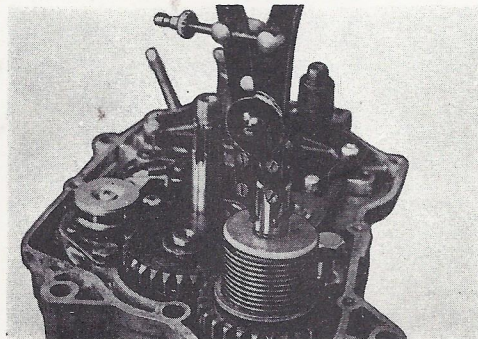

Fig. 3-10-3
- a. Remove the circlip and spring cover. (Fig. 3-10-3)